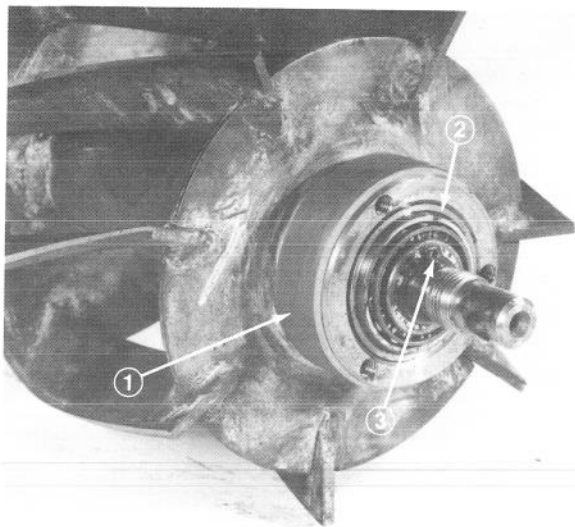

Figure 13
9. Inspect wear ring (Fig. 13), chain and sprockets for excessive wear (wear ring is pressed onto reel). Replace, if worn.
7. Remove retaining ring, bearing cone and bearing cup from drive end of reel shaft (Fig. 13).